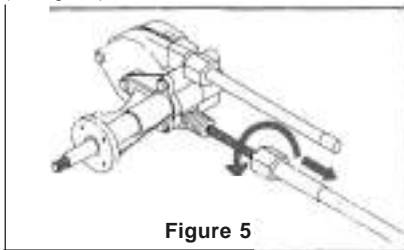

Figure 5
**STEP 1.** Disconnect the cable body from helm by turning the cable-retaining nut counterclockwise until free (See Figure 5)